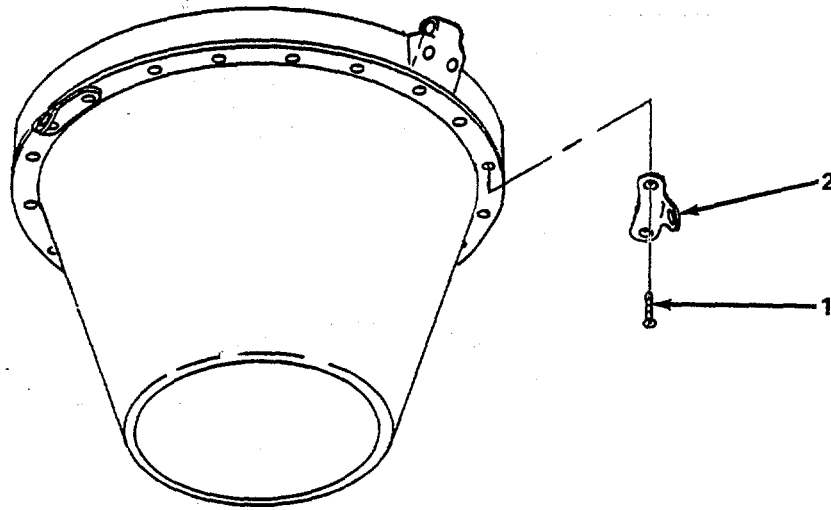

Figure 5-2. Jocking Harness Bracket, Replace.
(2) *Replace jocking harness bracket*. (figure 5-2).